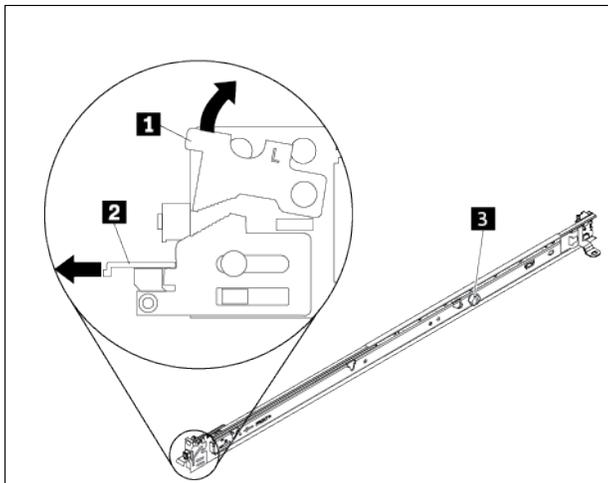

Figure 1: View of the Slide Rails
- 1 Open the front slide rail latches, as shown in Figure 1: View of the Slide Rails on page 8.